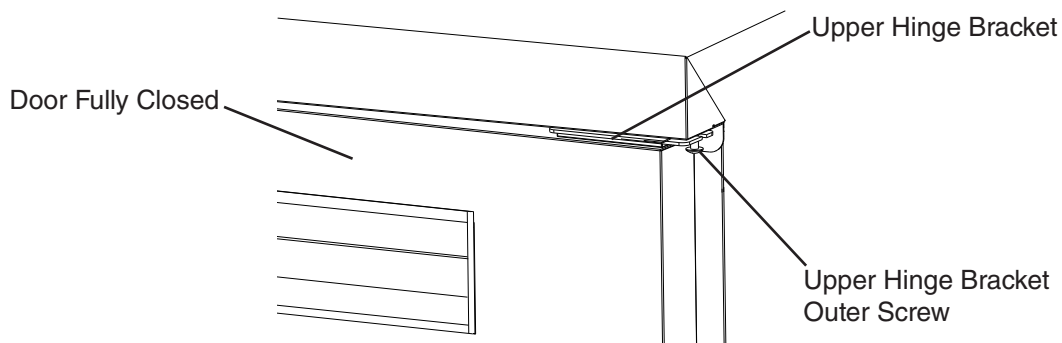

**Fig. 32**
18) Close the door and tighten the upper hinge bracket outer screw. See Fig. 32.